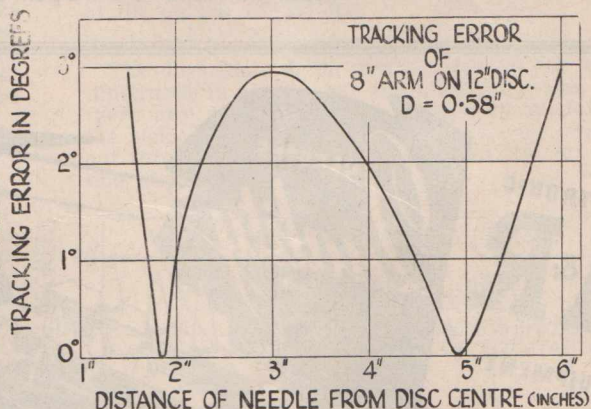
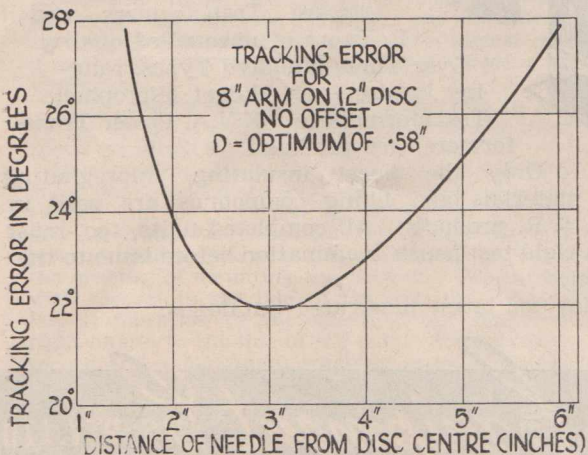

Fig. 5
Fig. 6
Fig. 3, however, does not suffer in this respect, and its particular advantage can be seen from Fig. 5. It will be noted that in this case the error obtained with a short (8-inch) arm is very large
From Fig. 5 it is clear that the system of Fig. 3 without offset is quite useless in attempting to reduce the error to a low absolute value. Taking the working surface of the record as between 6 in. radius and 1½ in. radius (which is a little on
In Fig. 5, if the actual form saturates it, thus obliterating the previous variations in flux head follows the solid line, A, due to the recorded A.F. This, this gives the flux waveform however, is not entirely satisfying represented by the solid line factory, since the tape or wire B. If the envelope enclosing is not demagnetized, but B is added algebraically, it will merely saturated; and although be found to give the sine wave- the supersonic bias does in form shown below (C), which practice bring the residual is the resultant voltage output flux back approximately to from the playback head. zero, some distortion is inevitable.
Obviously what is needed is some means of demagnetizing that, applied to the recording the recording medium, as head, it produces a magnetiz- watches and precision tools ing force corresponding to are demagnetized when they D-E (peak to peak) in Fig. 5. have accidentally come under The audio A.C. is now added the influence of a magnet; and to this, giving the waveform the most successful erase of Fig. 6 (A). Its positive and system makes use of a similar negative peaks, projected on principle.